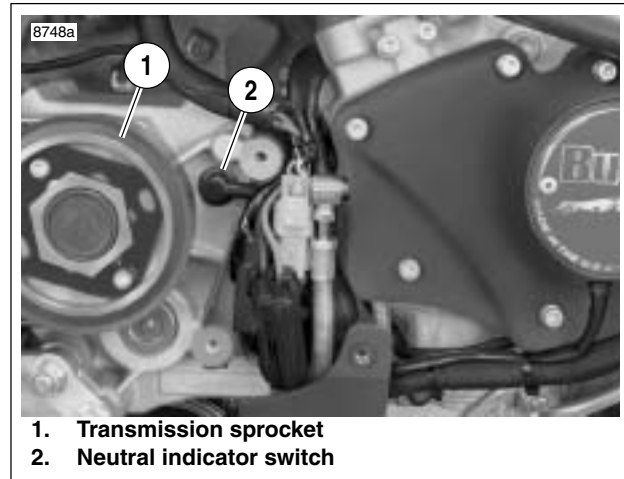

Figure 7-73. Neutral Indicator Switch Location
See Figure 7-73. The neutral indicator switch (2) is threaded into the transmission portion of the right crankcase half. It is immediately forward of the transmission sprocket (1). The sprocket cover must be removed to test the switch.
2. See Figure 7-73. Disconnect wire lead from neutral indicator switch (2).